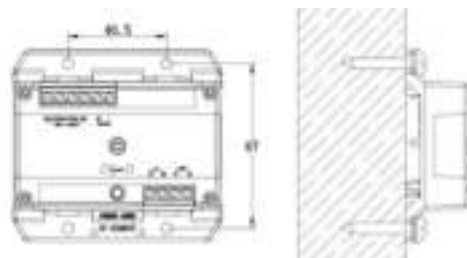

Fig. 3
- 4) The module can also be wall mounted by 4 mounting screws as shown in Fig. 3. Minimum mounting space is 67mm×40.5mm.